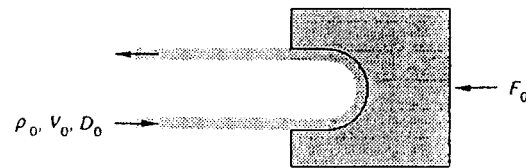

Fig. P3.41
**3.41** In Fig. P3.41 the vane turns the water jet completely around. Find the maximum jet velocity  $V_o$  for a force  $F_o$ .